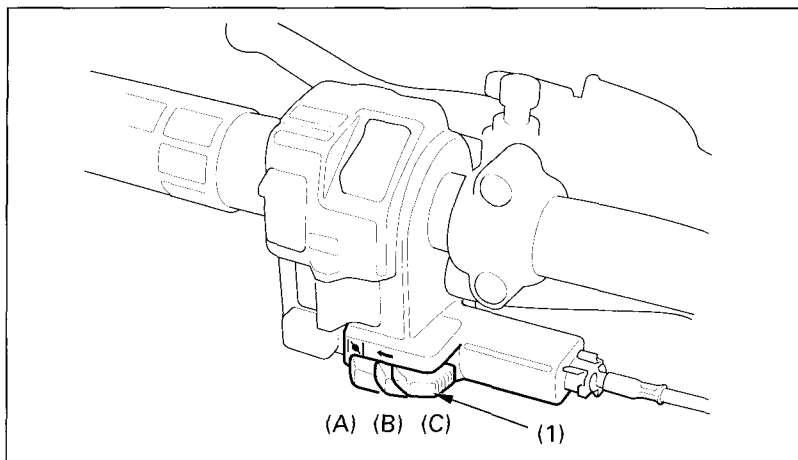

Fig. 3-9 (1) Choke lever
3. After the engine has warmed up, move the choke lever (Fig.3-9) right to the fully OFF. (C)